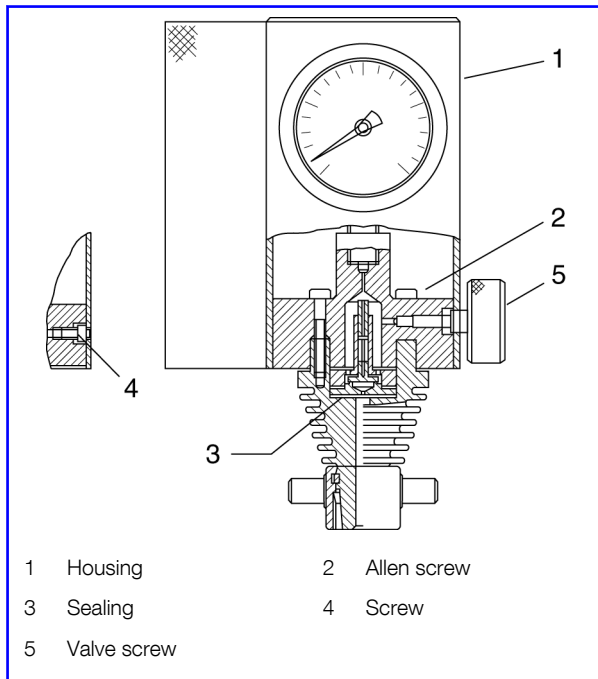

Figure 1: Pressure indicator
- 1) Dismount the valve screw (5), *fig 1*.
- 2) Turn the screw (4) into the instrument to enable dismantling of the housing (1).
- 3) Loosen the screws (2) (4 pieces) for separating upper and lower part.